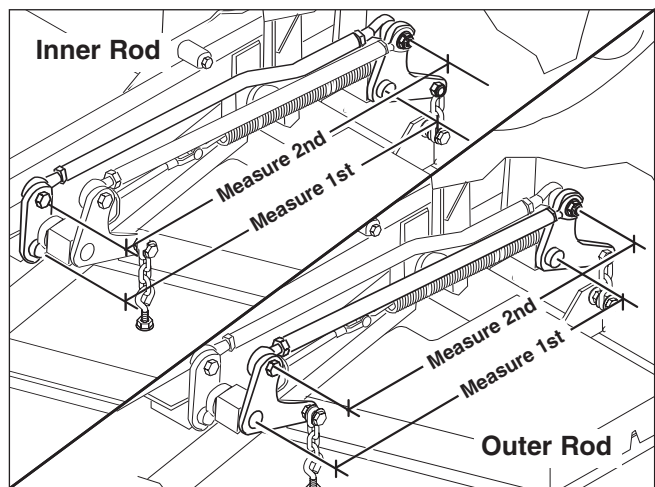

Figure 37. Measure the Inner & Outer Lift Rods
2. To check the inner lift rod timing, measure and record the distance between the inner lift pivots and the inner rod pivots. Repeat for other side of unit. See Figure 37.
3. To check the outer lift rod timing, measure and record the distance between the outer lift pivots and the outer rod pivots. Repeat for other side of unit. See Figure 37.